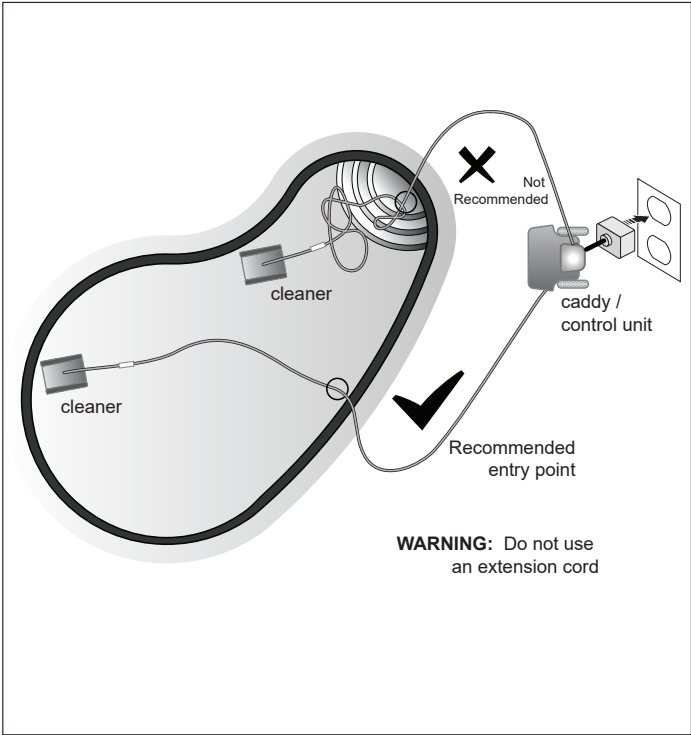

Figure 5. Pool Entry Point for Optimal Patterning
- 4. Place all of the floating cable in the water to allow free movement in your pool from the central point. Spread out the floating cable ensuring there are no kinks or coils in the cable (Figure 5).